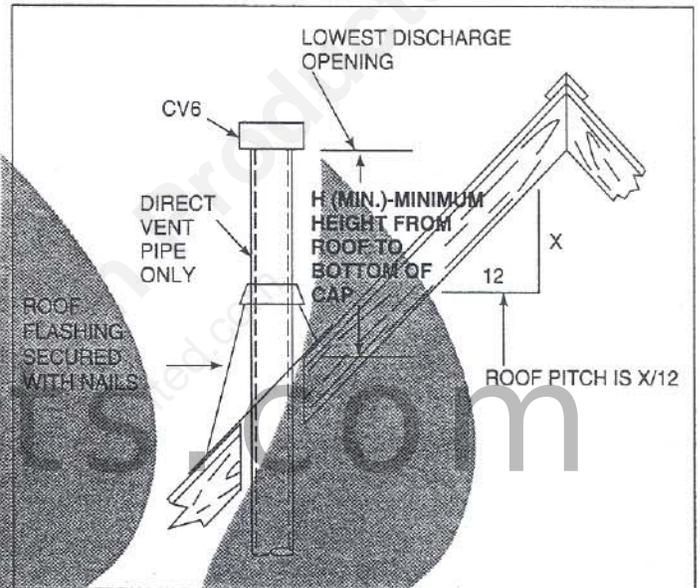

Figure 19
d. Chase/Termination Installation. Figure 19 and Table 1 specify minimum chimney heights for various pitched roofs. Chimney sections may have to be cut to a certain length.